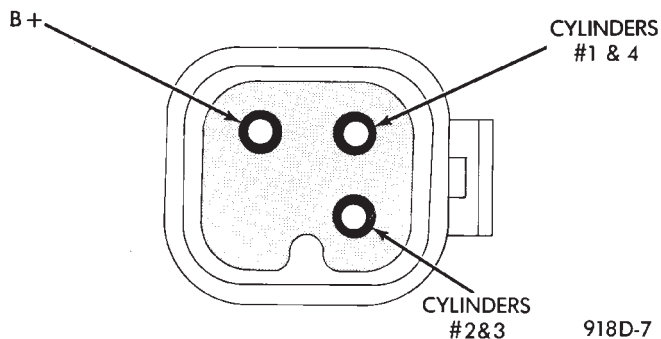

Fig. 5 Wiring Harness Coil Connector—Turbo III Engine
(2) Connect a voltmeter to the wiring harness coil connector at the B+ pin (Fig. 5).